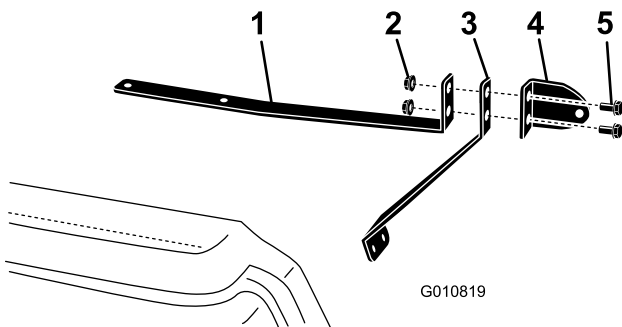

Figure 3
2. Assemble the mirror mount to the lower and upper mirror brackets using the 2 bolts (5/16 x 3/4 inch) and 2 flange nuts (5/16 inch) as shown in Figure 3.